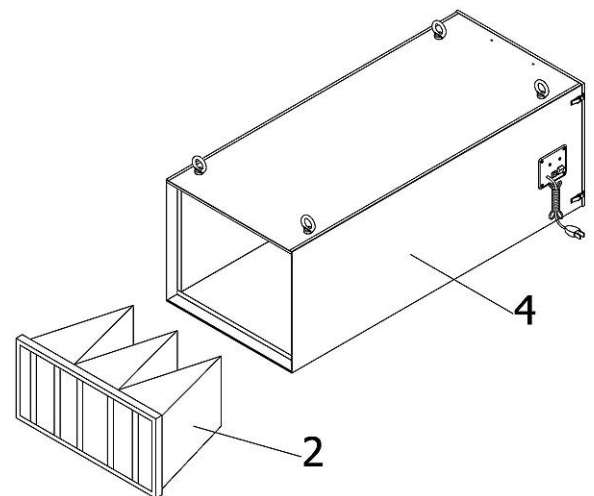

Fig.2
2. Installed the Inn-Bag Filter (NO.2) into the cabinet (NO.4). See FIG.2